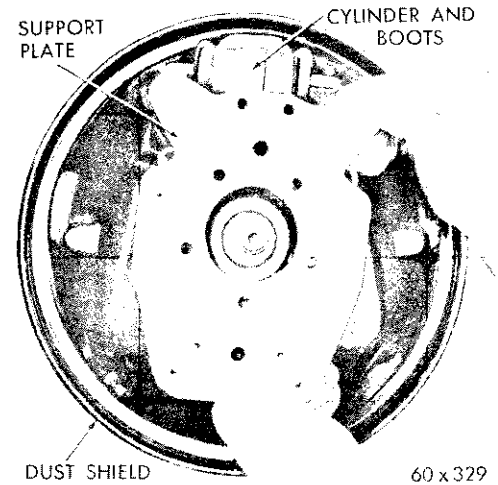

Fig. 15—Removing or Installing Support Plate (Rear)
(8) Remove each wheel cylinder mounting bolt after removing the sealer. Remove the support plate assembly, from the dust shield, as shown in Figure 15.
(9) Remove the wheel cylinders. If it is necessary to service the wheel cylinders, refer to Paragraph 14, Servicing the Wheel Cylinders.
(3) Slide the support plates out and away from the axle, as shown in Figure 15. When removing the dust shield, it is advisable to install the seal protector, Tool C-745, then slide the dust shield and seal off axle.
(4) Remove the bolts that attach the wheel cylinder to the support plate. Lift the wheel cylinder away from the plate. Inspect and clean the support plate as described in Paragraph 14 (c). If reconditioning the wheel cylinders, refer to Paragraph 14 (d), Wheel Cylinders.